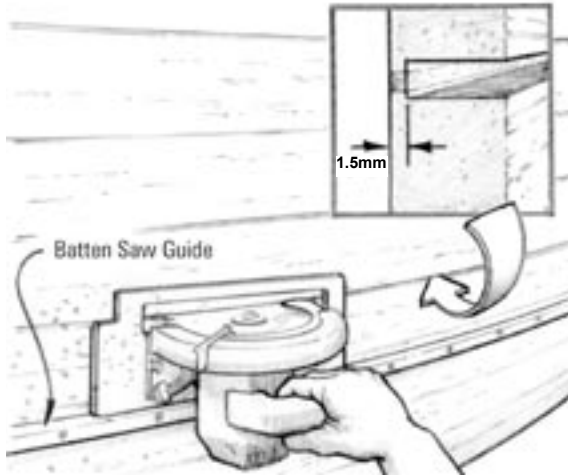
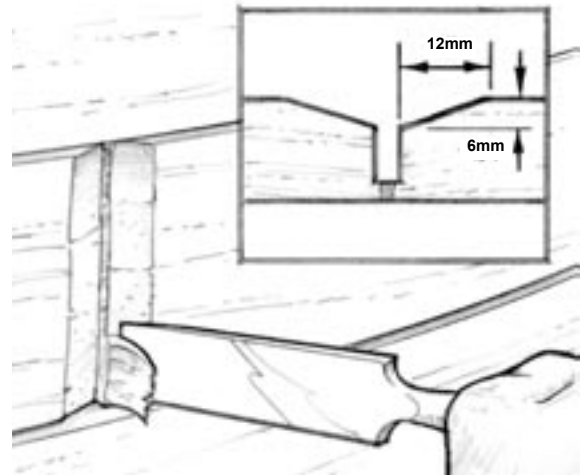

Figure 6-1 Use a circular saw to clean out plank seams.
Figure 6-2 Cut a bevel on the end of each plank.
5. Clean out each seam by running the saw along the batten (*Figure 6-1*). Check the depth and width of the cut. Clean out the butt joints at the ends of the plank. Chisel a shallow bevel on the end of the planks (6mm deep x 12mm back from the edge) (*Figure 6-2*).